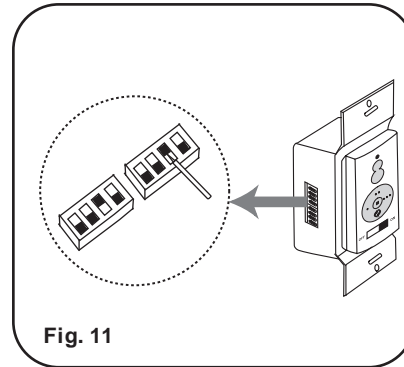

Fig. 11
**NOTE:** The Aire Control® System is equipped with a learning frequency function which has 256 code combinations to prevent potential interference from other remote units. The frequency on your Receiver and Transmitter units have been preset at the factory. (Fig. 11) No frequency change is necessary, should you desire to install another fan within the same home or area with a separate frequency code please see the "frequency interference" troubleshooting section of this instruction manual to learn how to change the frequency.